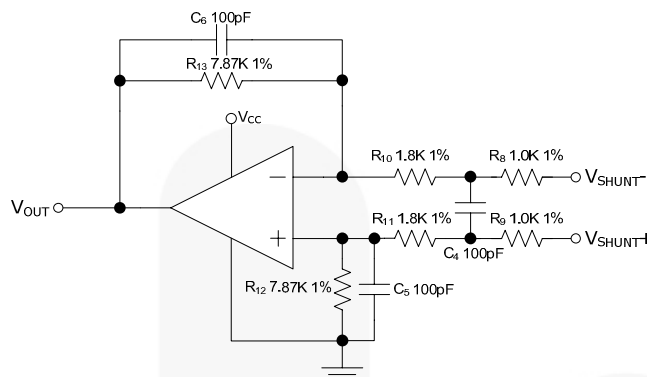

Figure 8. Application Circuit of SCP(Short-Circuit Current Protection)
- Components value: refer to Figure 8